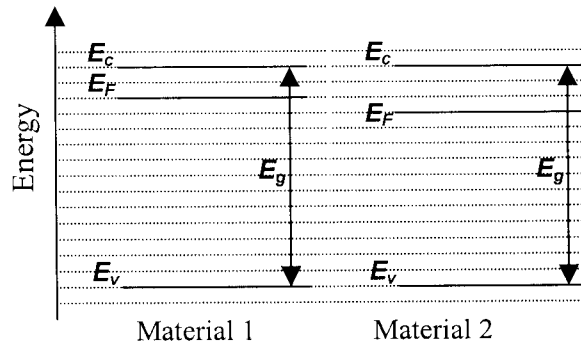

Figure 1: The energy band diagrams of two materials.
- b) Give the relationship ($<$, $>$ or $=$) between the density of the free minority carriers in material 1 and material 2 with energy band diagrams given in Figure 1. [4]